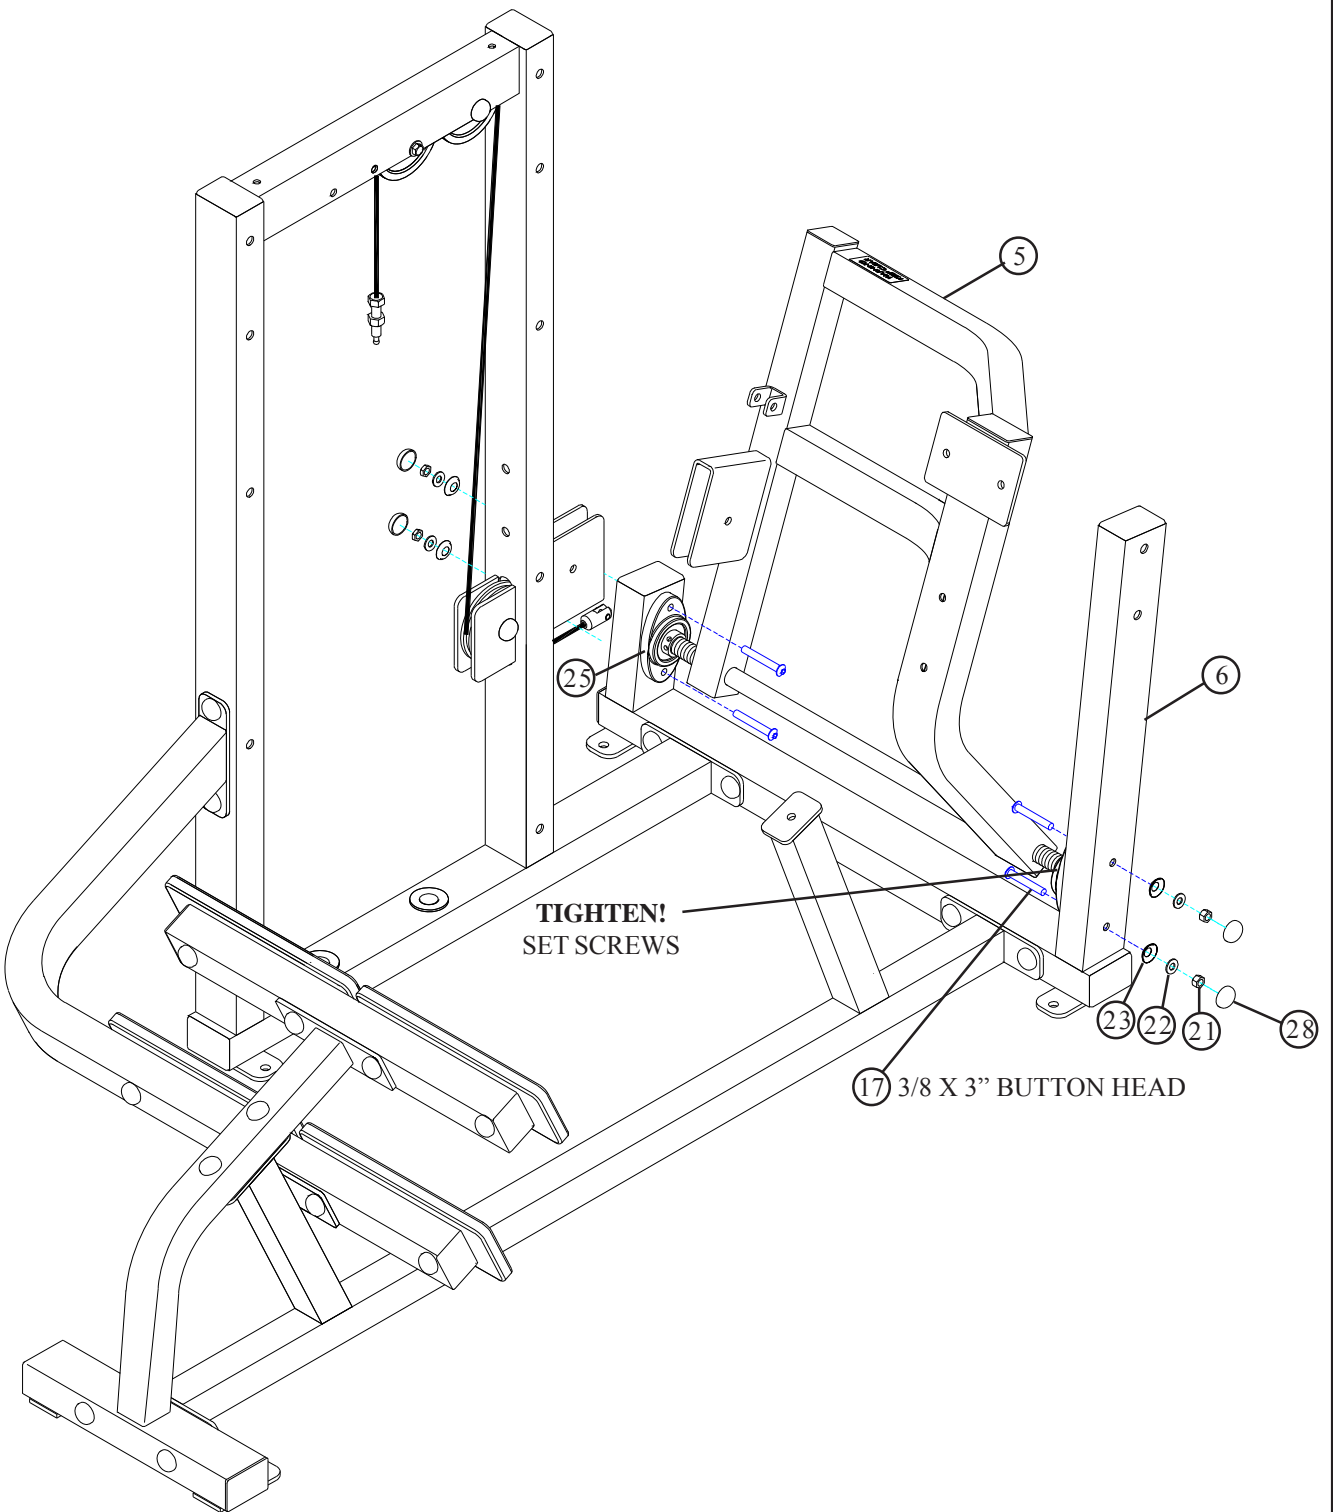

**FIGURE 6**
- Slide two ACCORDION SLEEVES (32) and two PILLOW BLOCKS (25) over the BACK PIVOT (5) as shown in FIGURE 6.
- Assemble four 3/8 X 3" BUTTON HEAD CAP SCREWS (17) and four STARLOCK WASHERS (42) to the the PILLOW BLOCKS (25) as shown in FIGURE 6.